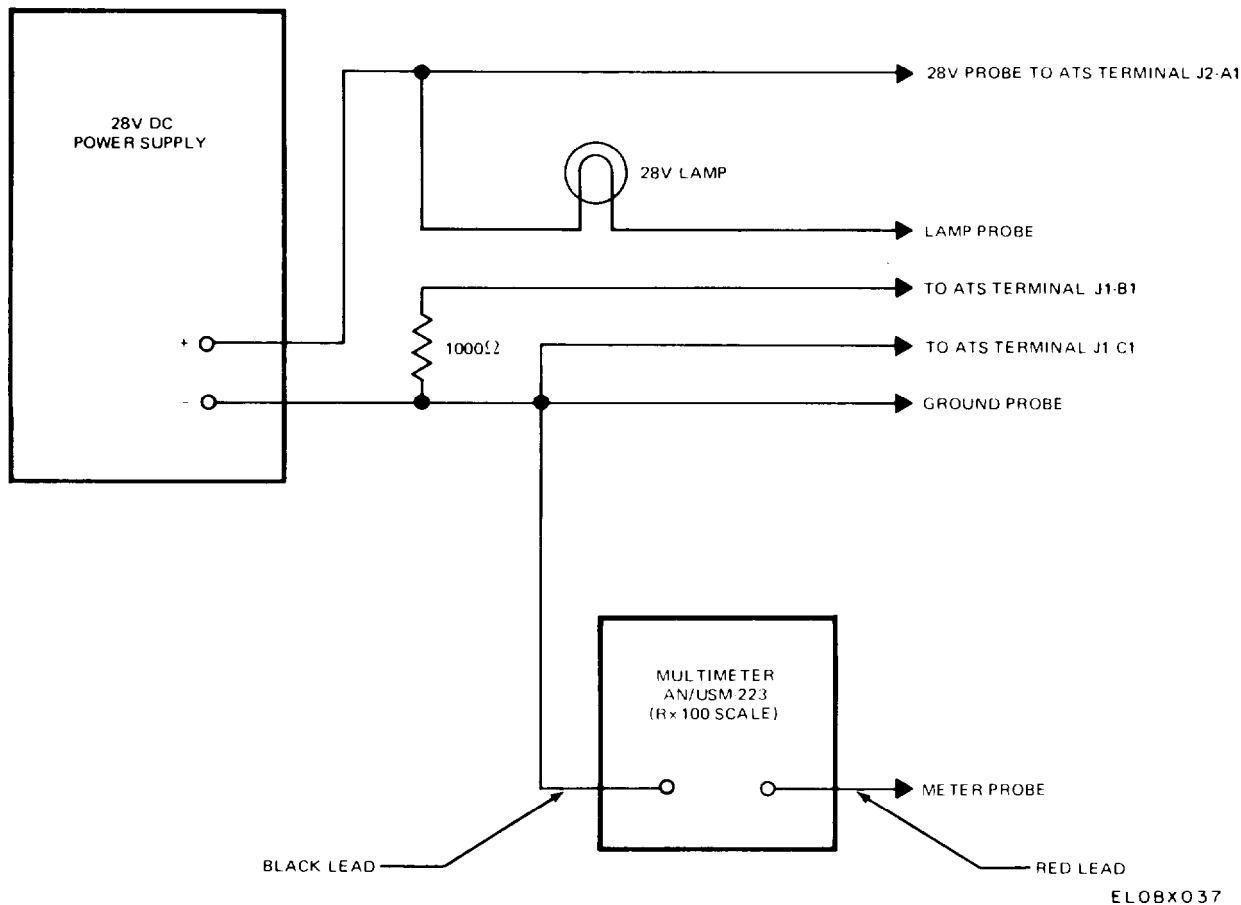

Figure 5-3. ATS test setup-control section.
*a. Preliminary Test Setup, Control Section (fig. 5-3).*
(1) Connect ATS terminal J1-C1 to a common ground point such as the low side of the 28 vdc power supply.
(2) Connect ATS terminal J1-B1 through a 1,000-ohm resistor to ground.
(3) Connect the multimeter black lead to ground. The red lead will be designated the meter probe for the following tests.
(4) Connect the low side of the 28 vdc power supply to ground if not already accomplished in (1) above.
(5) Connect a 28-volt lamp on the high side of the 28 vdc power supply and connect a probe to the other side of the 28-volt lamp so that feed-through terminals of the ATS may be probed as